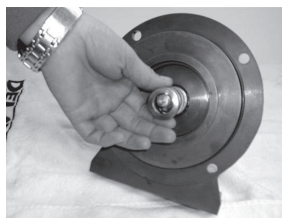

Fig. 4
4. Remove the spring assembly from the shaft by pulling it off with your hand. Fig. 4.